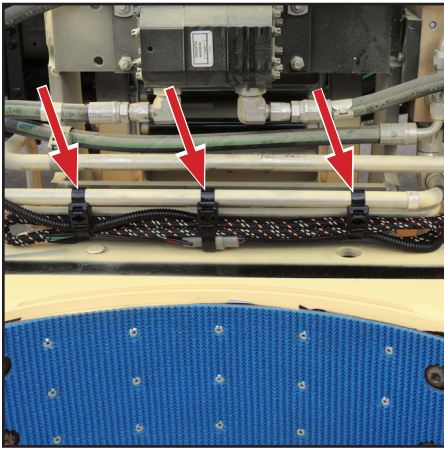

Figure 19
39. Zip tie the electrical harness out of the way, such as to the pipes on the grabber (Figure 19).